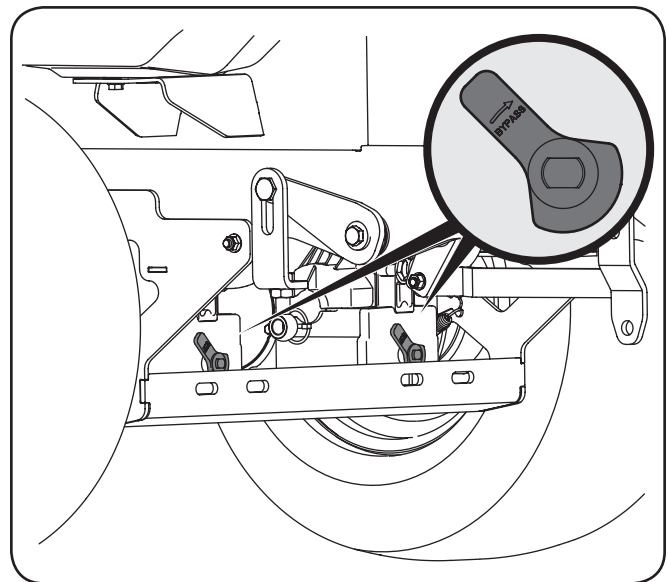

Figure 3-2
4. Engage the transmission bypass valves on each side of the machine by moving both levers to the left. The transmission bypass valves (one for each the RH and LH transmission) are located under the machine on the front of each transmission inside the rear wheels. See Fig. 3-2.
2. Insert the carriage bolts (one per side) through the flat washer then into the frame brackets and ROPS posts from the front toward the rear. See Fig. 3-2. Alternately from the rear toward the front if access is restricted.